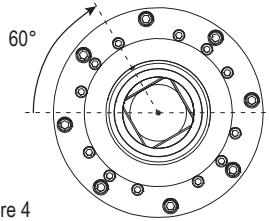

Figure 4
- Rotate the unit until the oil fill hole is sitting between 60° - 70° from horizontal (Figure 4).
4. Add threadlocker medium strength (e.g. Loctite 243) around the outside of the shaft seal.(Figure 4)